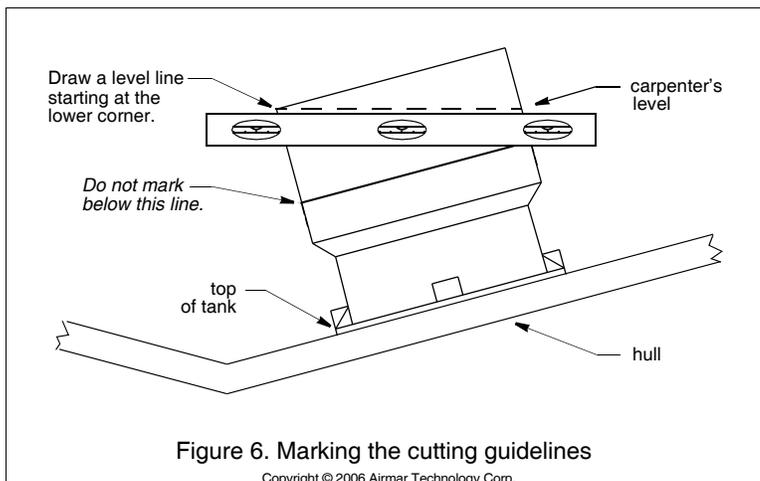

Figure 6. Marking the cutting guidelines
1. When you are satisfied that the selected mounting location is optimal, place the tank *up-side-down* on the hull (Figure 6).